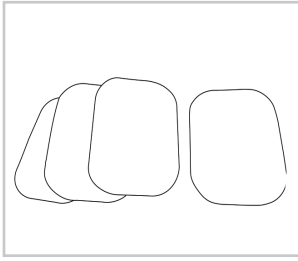

Figure 1
1. Removable foam ankle pads are provided for patient comfort (Figure 1).